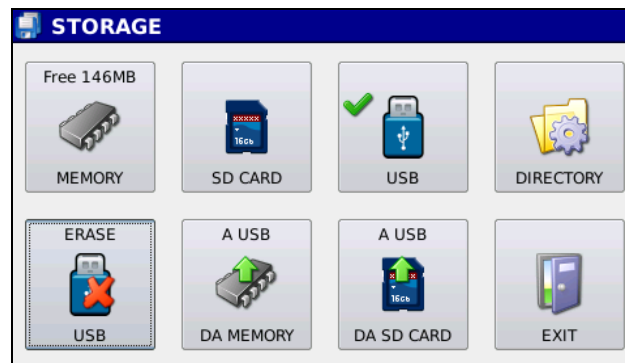

Fig. 4.6: STORAGE screen after selection of the USB device as working memory
4.3 Press USB to select the USB device as default storage memory. If the USB device is not present, the message USB NOT PRESENT will appear. If the device is properly installed, the screen will appear as in Fig. 4.6.